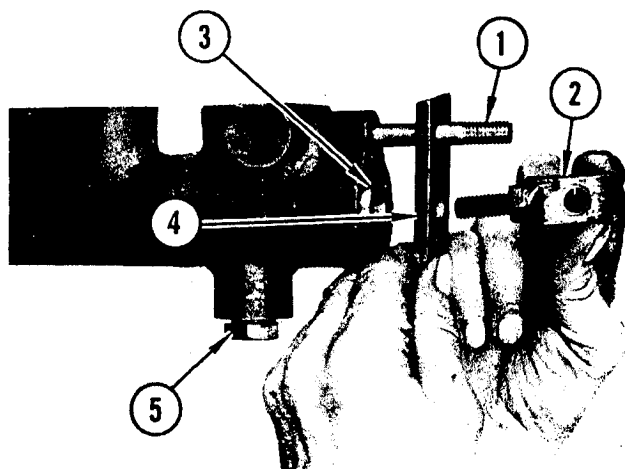

FIGURE 55. CONTROL VALVE
Refer to Figure 55. Remove nut from stud (1). Remove pull rod bolt (2) from piston (3). Remove bar (4).